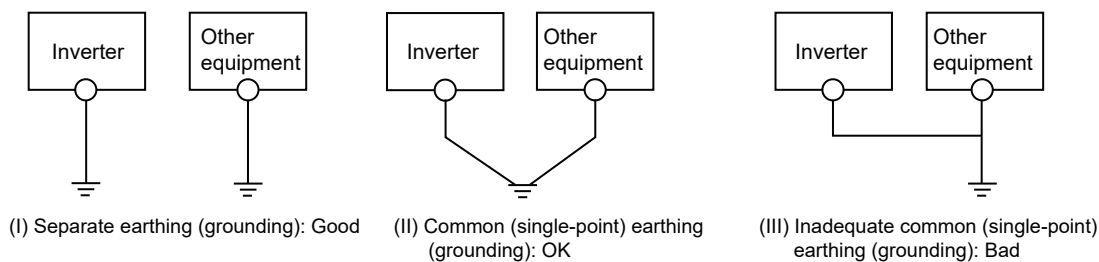

Fig. 7.25 Earthing (grounding) methods
- (a) Make the separate earth (ground) connection (I) for the inverter from any other devices wherever possible. (Refer to Fig. 7.25.)